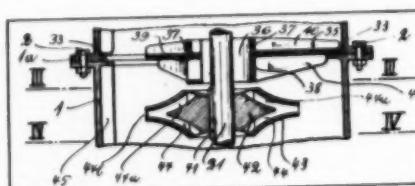

Fig. 4.
The partition or floor of each mixing section is provided with an upper and lower projection. The upper projection (37) in Figure 4 serves to dam the heavier liquid settling in the section above partition (35). As fresh liquid flows into the upper section, the heavier liquid flows over projection (37) through opening (36) into the next lower mixing section. The lower projection (38) serves a similar purpose for the lighter liquid. On projection (38) are four tubular extensions (39), which carry the light liquid collecting under partition (35) into the next higher mixing section without hindering downward movement of the heavier liquid.
Figures 4, 5, and 6 illustrate the design of the mixing device consisting of an inner supporting member (42) secured on the shaft (21) by a key (41), and inside the housing (43). When the stirrer is rotated, fresh unmixed liquid flows into channels (44 and 44a) from the sections above and below. The centrifugal force causes the mixed liquids to be thrown out of the side opening (44b) into the settling chamber, where after separation they are directed to adjacent stages.